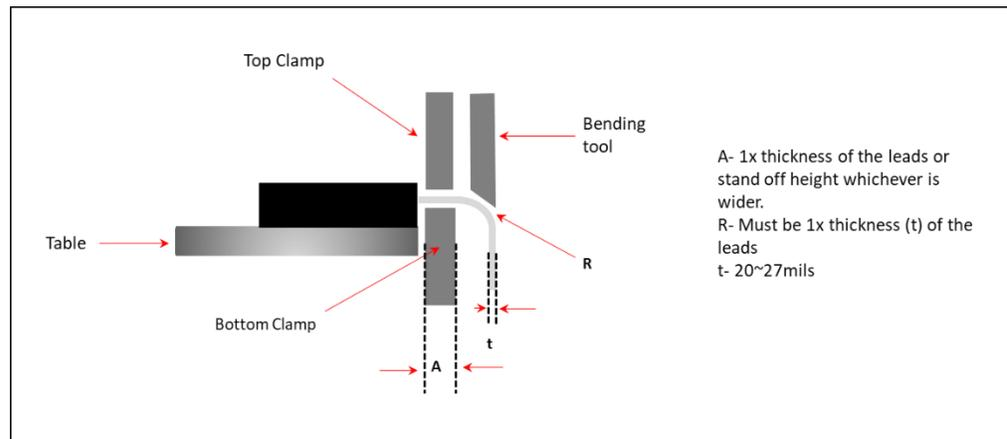

Figure 4 Lead bending dimensions
To safely bend the THT package lead, it is important to have clearance from the plastic. A minimum radius of the bend as depicted in Figure 4 must also be maintained to avoid weakening or cracking the leads.
- Maintain the safe distance as stated in Figure 4.